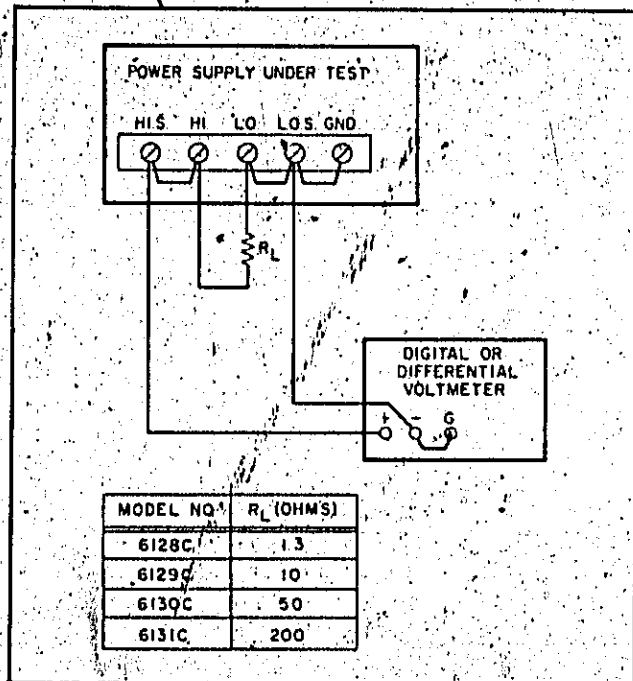

Figure 5-1. Constant Voltage Load Regulation Test Setup
- Connect test setup shown in Figure 5-1. Set the METER switch to the highest voltage and current ranges.
- a. Connect test setup shown in Figure 5-1. Set the METER switch to the highest voltage and current ranges.
- a. Connect test setup shown in Figure 5-1.